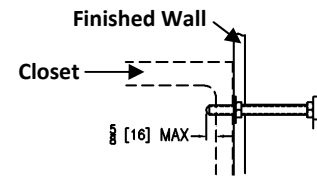

Figure 11a
11. Prep for finished wall. Fasten the (4) threaded rods from the finish bag into the faceplate, through the foot slots until each rod extends 5/8 [16] past the closet bowl flange (see **Figure 11a**).